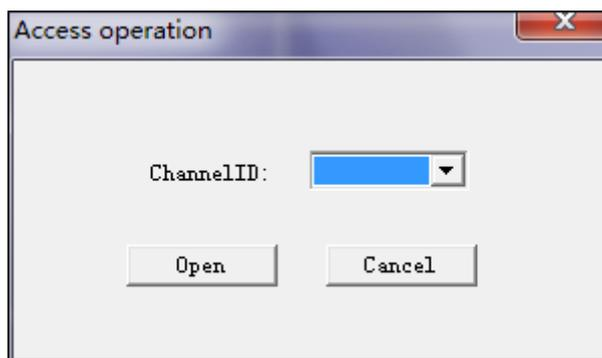

Figure 2- 14
Step 2. Click Set. See Figure 2- 14.